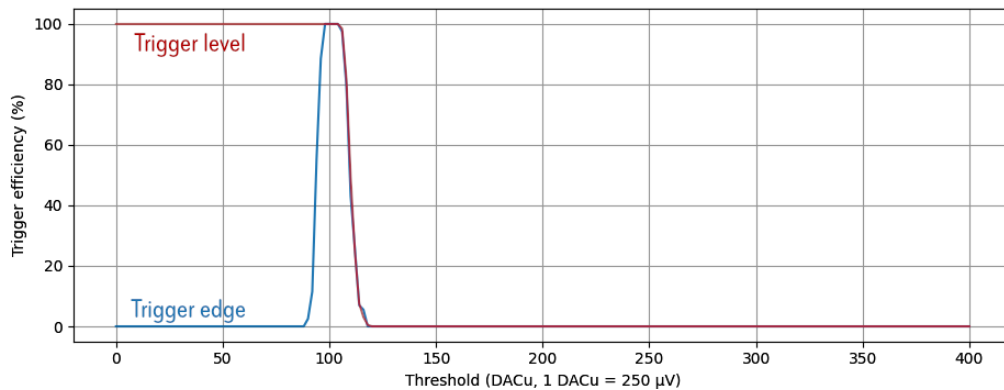

Figure 14 – S-curves on trigger level versus trigger edge.
Finally, checkbox ④ allows to perform the measurement on trigger level or trigger edge. The difference is only visible when below the pedestal. If the measurement is done on trigger level the trigger efficiency will be 100 % when the threshold is below the pedestal. If done on trigger level the trigger efficiency will drop to 0 when the threshold is below pedestal. The difference is shown on Figure 14.